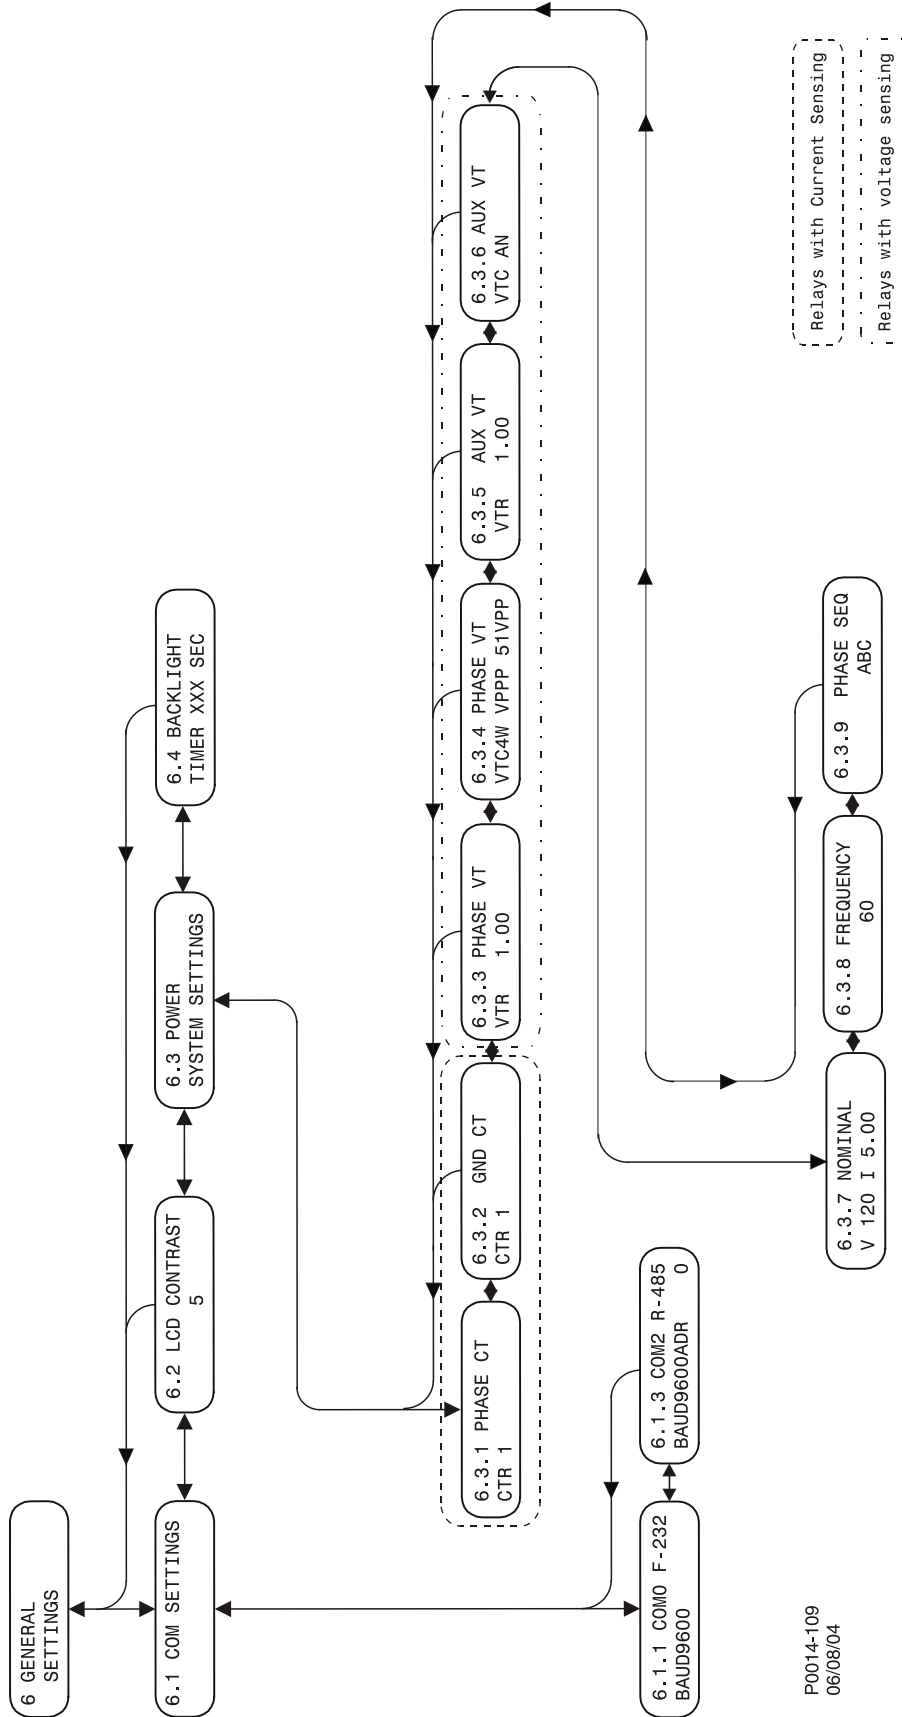

Figure 10-9. General Settings Menu Branch Structure
6. GENERAL SETTINGS – Provides display and setting of relay configuration settings such as communication, LCD contrast, transformer ratios, and system frequency. General Settings menu branch structure is illustrated in Figure 10-9.